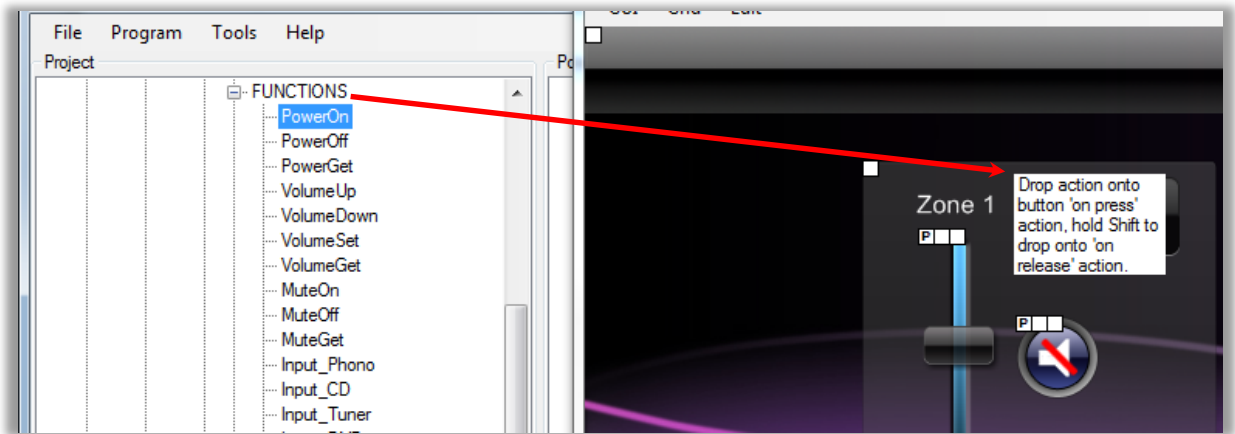

Figure 10 - GUI Page Editor: drag and drop functions onto buttons
- Drag-and-drop the desired FUNCTION directly onto the button. *Refer to Figure 10*